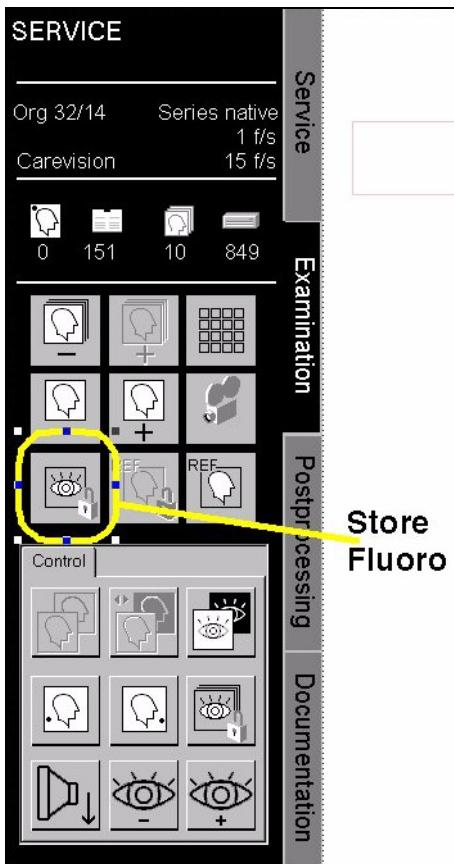

Fig. 1
- Store the LIH image via the "Store" button for evaluating a fluoro image (Fig. 1).